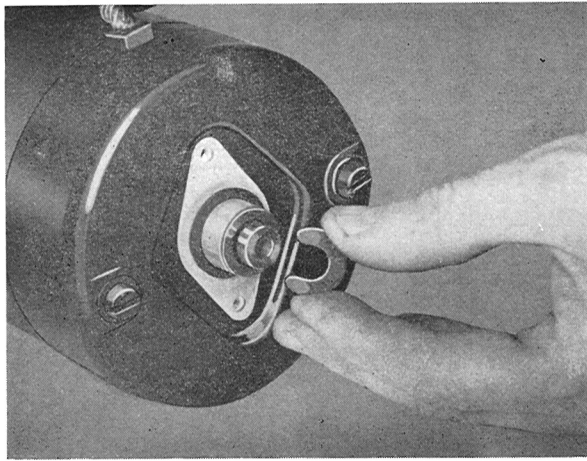

Fig. 3-79. Removing lock washer
2. Lift off the lock washer and adjusting washers as shown in Figs. 3-79 and 3-80.